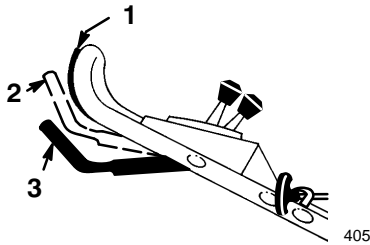

Figure 9
1. Move control bar to the RUN/SHIFT position (Fig. 9).
3. To engage the self-propel drive, squeeze the control bar against the handle in the RUN/DRIVE position (Fig. 9).
Note: Do not shift speeds while the control bar is squeezed against handle in the RUN/DRIVE position (Fig. 9); the transmission could be damaged. Move the control bar to the RUN/SHIFT position when changing ground speed.